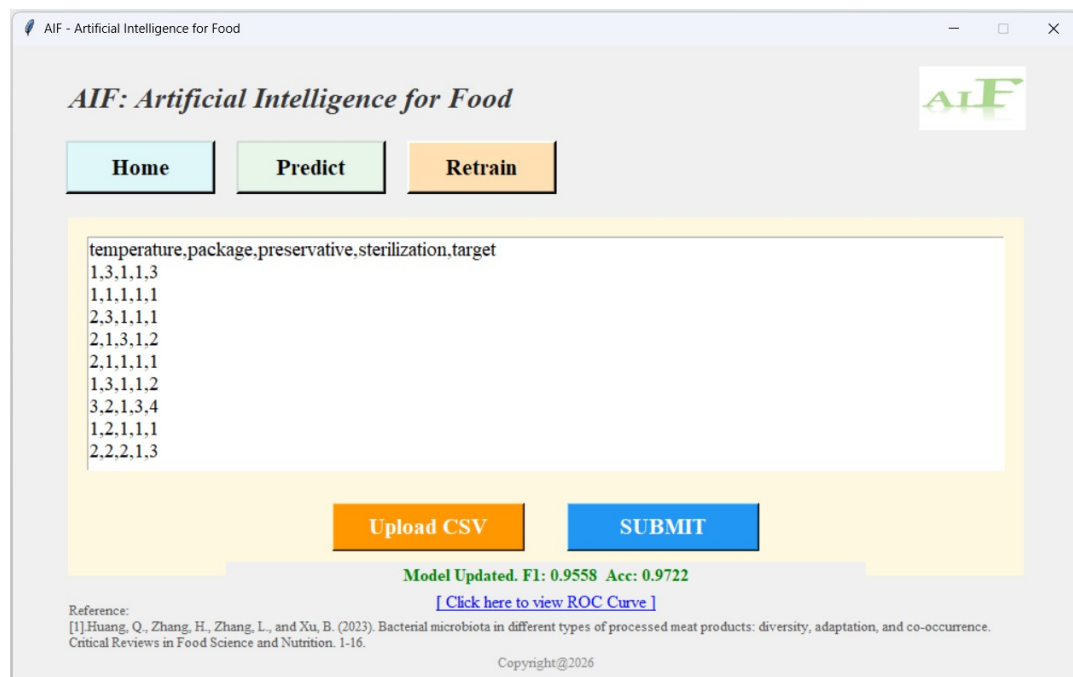

Figure S4.3. Retraining Module
(1) Data Input (as shown in Figure S4.3 (a)):
(2) Data Format Requirements:
(3) Data Validation (as shown in Figure S4.3 (b)):
(4) Model Update (as shown in Figure S4.3 (c)):
(a) Success Message (as shown in Figure S4.3 (d)):
(b) Visual Validation (as shown in Figure S4.3 (e)):